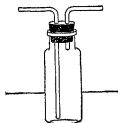

Fig. 23
d. [Hood] If sulphur dioxide gas is not furnished in the laboratory from cylinders of the liquid,* it may be prepared for use in 84 or 89 as follows. Fit up a flask (250 c.c.) as in Fig. 17 (p. 51). If 84 is to be performed, a gas washing-bottle (Fig. 23) will be required to dry the gas, and will contain enough concentrated sulphuric acid to immerse the longer tube to a depth of half an inch. Attach the longer tube of the bottle by rubber tubing to the generating flask. Place about 15 g. of sodium bisulphite in the flask. Test the apparatus to see that it is air-tight. Dilute some concentrated hydrochloric acid (1:1) and place it in the funnel.